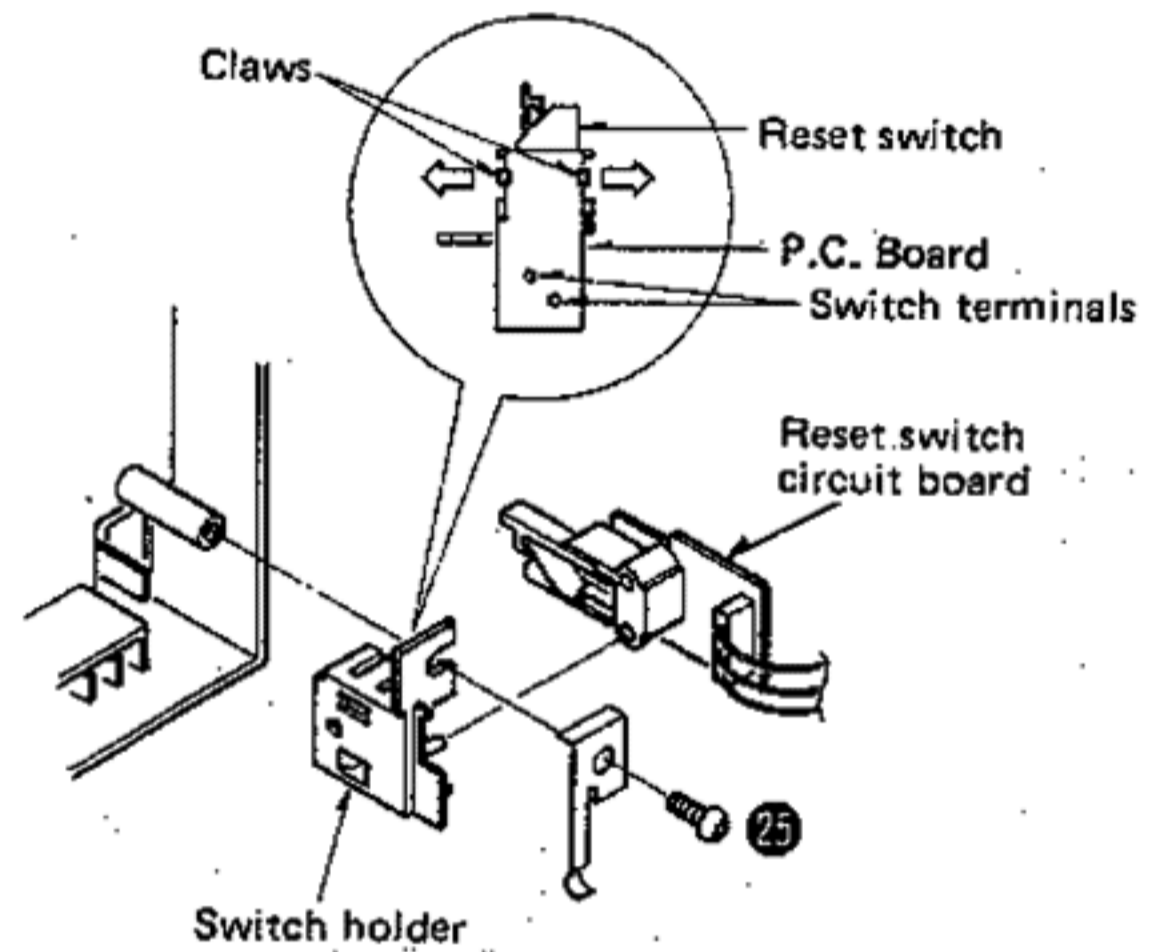

Fig. 11
2. Remove the switch holder setscrew. (Fig. 11: ②⑤)